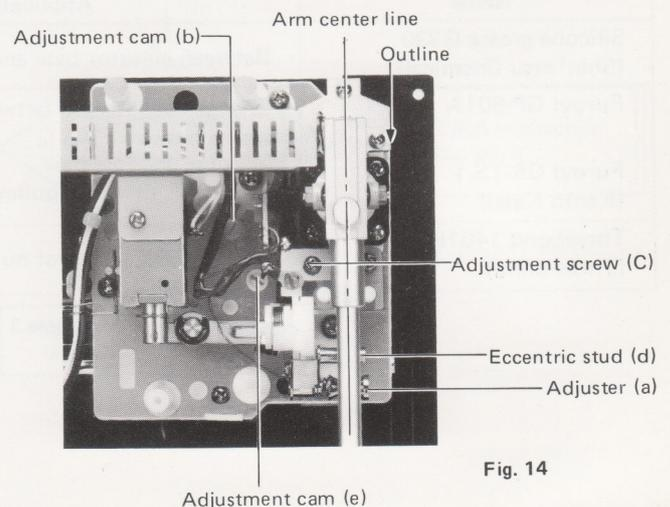

Fig. 14
With the elevator lifted up, adjust the parallelism between the center line of the pipe arm (see Fig. 14) and the longitudinal outline of the mechanism base by adjuster (a).
Note: The stylus height, when the tonearm pin is in contact with adjuster (a) and eccentric stud (b) shown in Fig. 14 and 15 at the same time, should be 3.5 mm from the record surface.
1. With the test record (RG325), adjust the "30-cm" lead-in count to 20 ± 3 by adjustment cam (e) shown in Fig. 14.